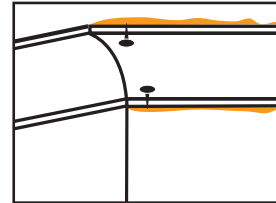

FIGURE 14
- Press the cornice into place and if necessary hold with temporary nails in the wall and ceiling along the edges of the cornice. [Figure 14]